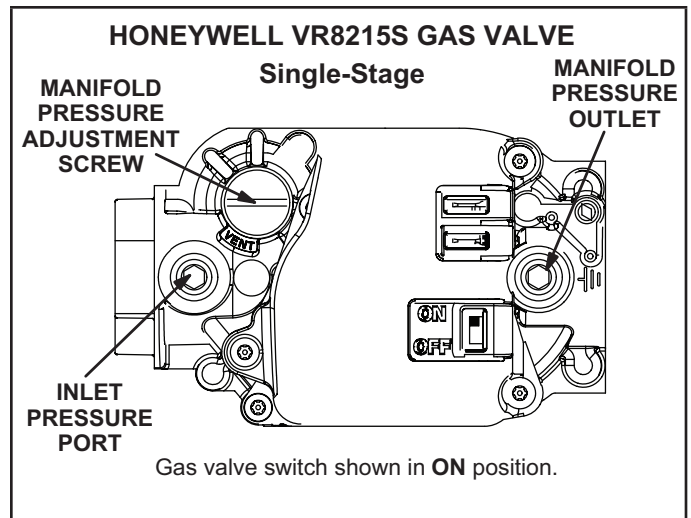
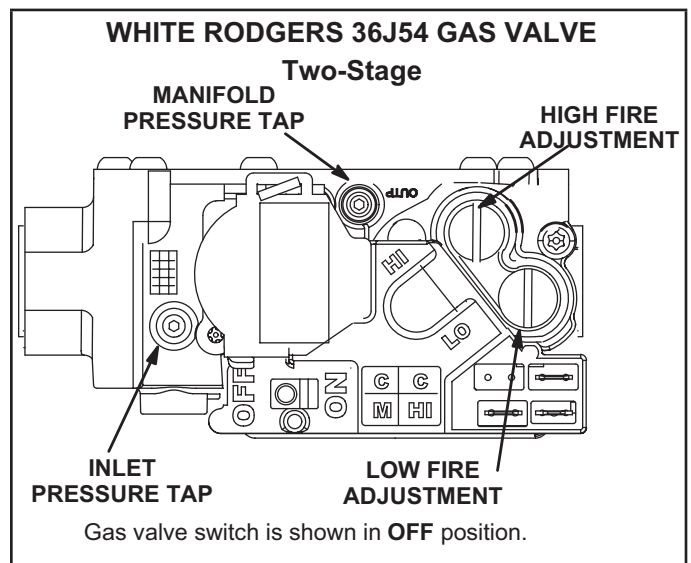

FIGURE 20
FIGURE 21
Units are equipped with a single stage gas valve (figure 20) or two stage gas valve (figure 21). On a call for first stage heat (low fire), the valve is energized by the ignition control simultaneously with the spark electrode. On a call for second stage heat (high fire), the second stage operator is energized directly from A3. A manual shut-off knob is provided on the valve for shut-off. Manual shut-off knob immediately closes both stages without delay. On both valves first stage (low fire) is quick opening (on and off in less than 3 seconds).
Gas Valve Operation (figures 20 and 21)
- 5 - Switch gas valve to OFF. See figure 20 or 21.
- 6 - Wait five (5) minutes to clear out any gas. If you then smell gas, **STOP!** Immediately call your gas supplier from a neighbor's phone. Follow the gas supplier's instructions. If you do not smell gas, go to the next step.
- 7 - Switch gas valve lever to **ON**. See figure 20 or 21.